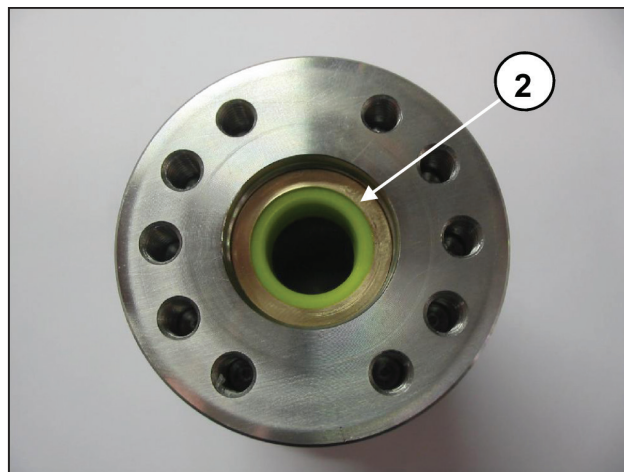
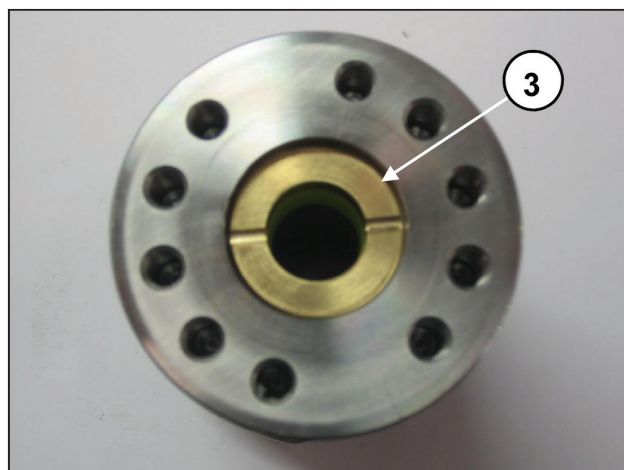
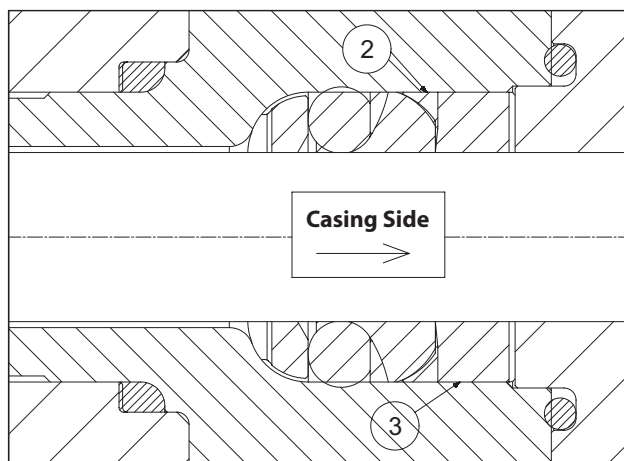

Fig. 124
Fig. 125
Fig. 126
- Insert the anti-extrusion ring ② and the gasket bush ③ arranged as shown in Fig. 124, Fig. 125 and Fig. 126.
The gasket bush ③ must be introduced into the support with the outlets facing outwards (casing side) as shown in Fig. 125 and in Fig. 126.